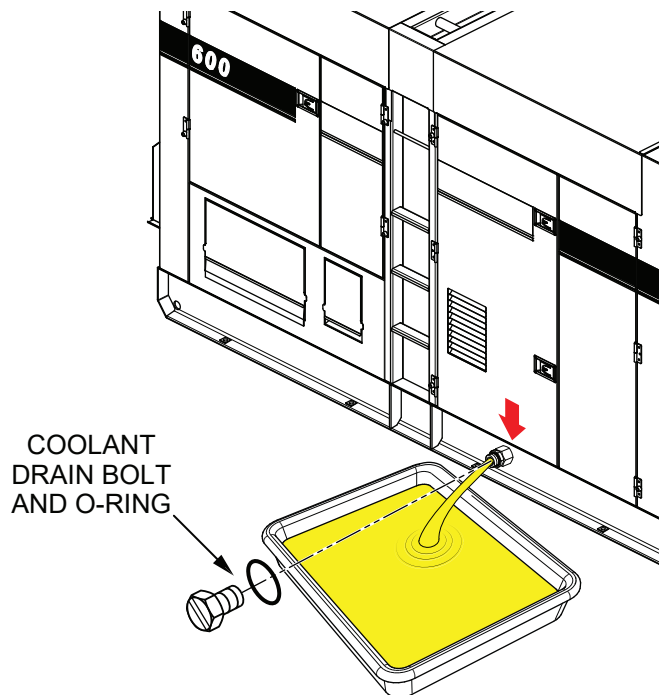

Figure 88. Draining The Engine Coolant
2. Open the cabinet door and remove the **coolant drain bolt** and **O-ring** (Figure 88), then allow the coolant to drain into a suitable container.